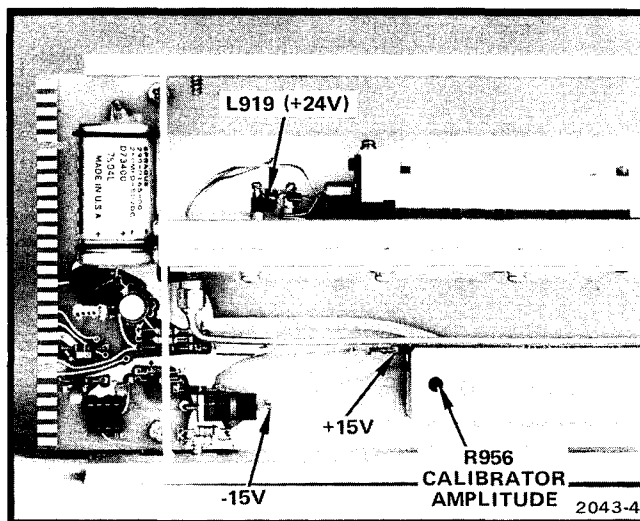

Fig. 4-1. AM 511 power supply check and calibrator adjustment location.
b. Connect a voltmeter between chassis ground and either end of inductor L919 (see Fig. 4-1).
d. Move the voltmeter to the forward end of diode VR970 (see Fig. 4-1) and check for +15 V \pm 3.5 V.
e. Move the voltmeter to the forward end of R932 (see Fig. 4-1), reverse meter leads if necessary, and check for -15 V \pm 2.0 V.
d. The calibrator output level can be adjusted by removing the left side panels to gain access to the calibrator. Adjust R956 (see Fig. 4-1) for an output level of +30 dBmV (31.6 mV RMS).